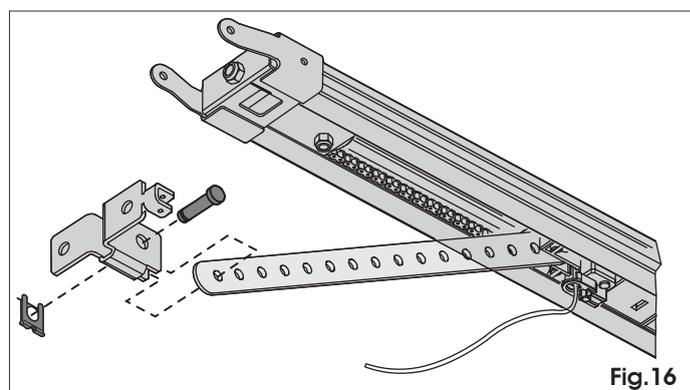
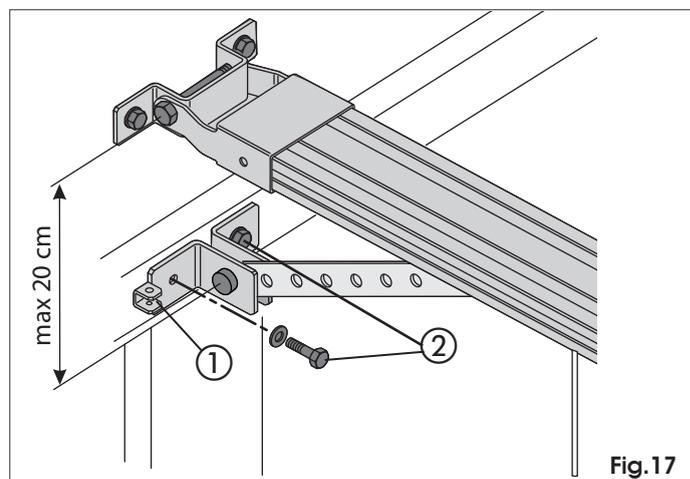
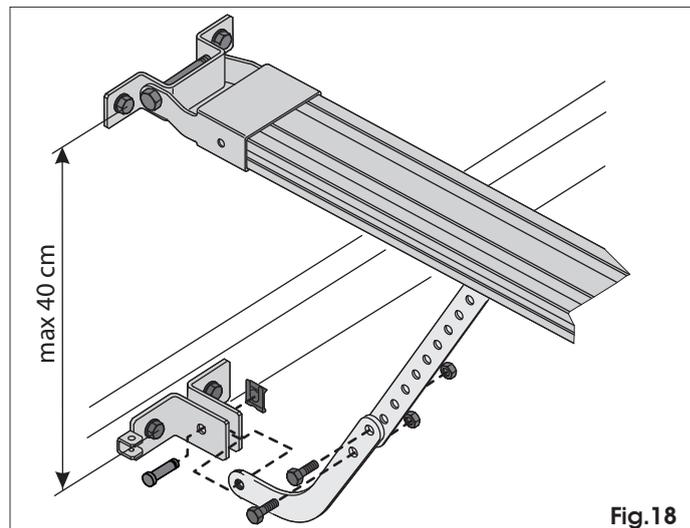

Fig.16
Fig.17
Fig.18
- 1) Assemble the fitting with the carriage rod (Fig. 16). Position the fitting on the door so that the through-element of the release cable is facing toward the left side of the door (ref. ① Fig. 17).
- 4) Make sure that the distance between the between-centres of the securing holes of the front fitting and the on-door fitting does not exceed 20 cm (Fig. 17). To ensure correct operation of the automated system, we advise you to avoid arm inclinations of over 30° compared to the sliding guide. If using the curved arm for sectional doors (optional), carry out the assembly with the straight arm of the carriage as shown in Fig. 18. To improve efficiency of the anti-crushing system, we advise you to secure the fitting on the sectional door as low as possible, without, however, exceeding the distance of 40 cm from the operator's front fitting.
- 5) Mark, drill and secure the fitting to the door, using the screws (ref ② Fig. 17) **NOT** supplied.